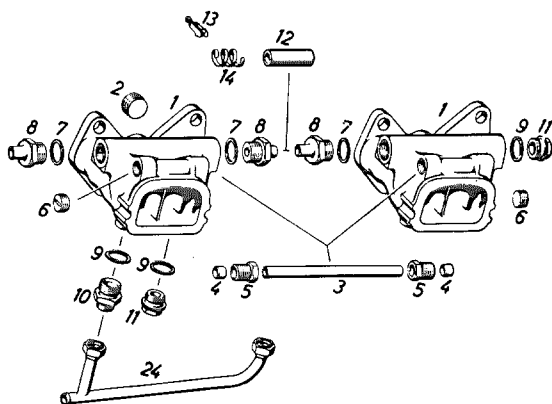

Fig. 01-4/18
2. Unscrew the coupling nuts (5) and remove the compensating line (3) together with the clamp rings (4) (see Fig. 01-4/18).